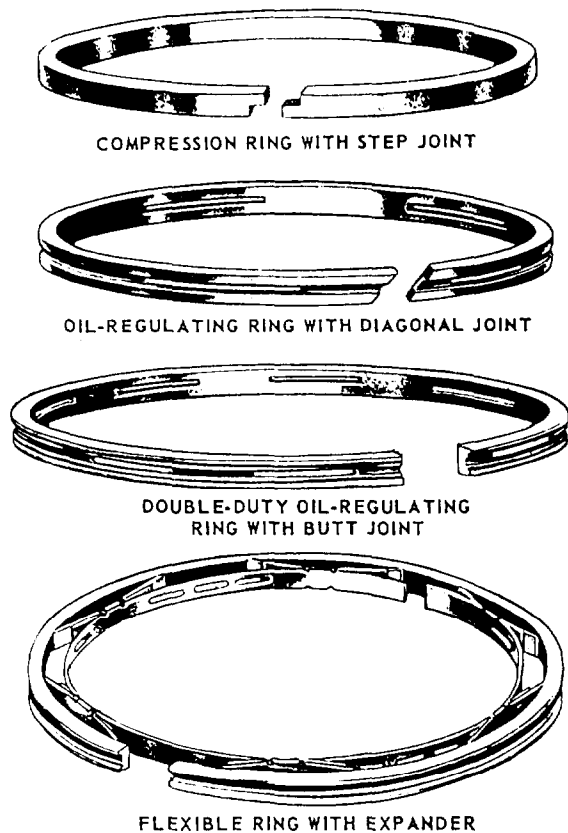

Figure 12-18.-Piston rings.
**PISTON RINGS.**— Piston rings are used on pistons to maintain gastight seals between the pistons and cylinders, to aid in cooling the piston, and to control cylinder-wall lubrication. About one-third of the heat absorbed by the piston passes through the rings to the cylinder wall. Piston rings are often complicated in design, are heat treated in various ways, and are plated with other metals. Piston rings are of two distinct classifications: compression rings and oil control rings. (See fig. 12-18.)